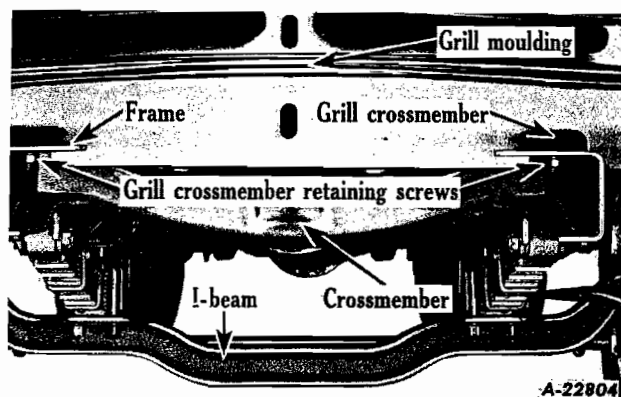

Fig. 67
8. Remove two grille crossmember retaining screws at frame rail (Fig. 67). (Illustration shows bumper removed to secure better view of operation.)